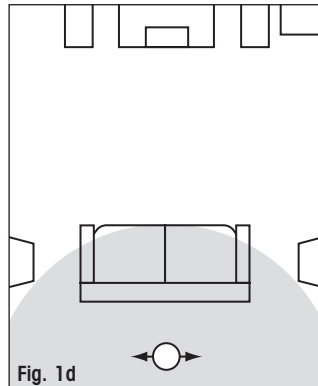

Fig. 1d
6.1 Rear Placement Using One Speaker (Fig. 1d)